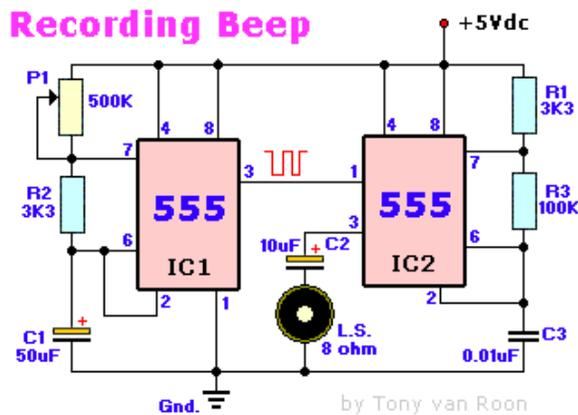

Fig. 12
**Fig. 12, Recording Beep:** This circuit is used to keep recording of telephone conversations legal. As you may know, doing otherwise without consent of the other party is illegal. The output of IC1 is fed to the 2nd 555's pin 3 and made audible via C2 and the speaker. Any 8-ohm speaker will do.